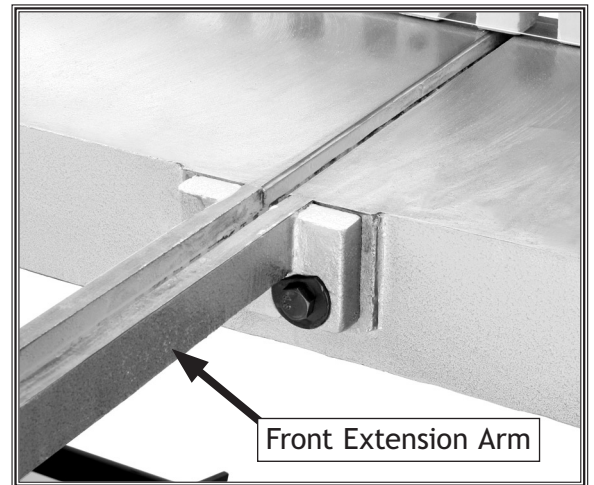

Figure 6. Front extension arm installed.
To install the front extension arms as shown in Figure 6, do these steps:
6. When complete, the finished assembly should look like Figure 6.